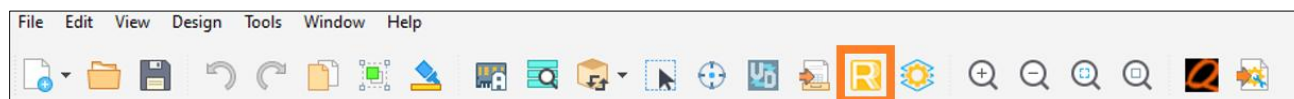

Figure 7.11. Run Radiant Icon
- Click the Radiant icon from Propel Builder to launch the Radiant software as shown in Figure 7.11.